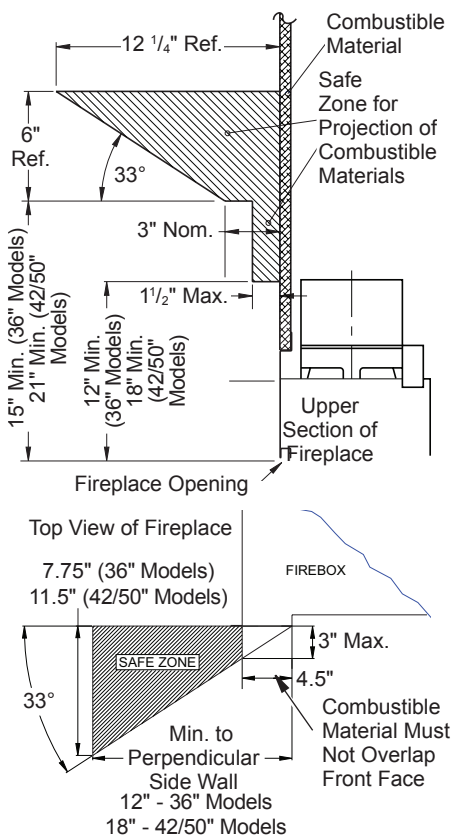

**Figure 6 - Hearth Extension**
Thermal conductivity "K" of materials can be obtained from manufacturer or supplier of noncombustible material. If hearth extension is to be covered, use noncombustible material such as tile, slate, brick, concrete, metal, glass, marble, stone, etc. Provide a means to prevent hearth extension from shifting and seal gap between fireplace frame and hearth extension with a noncombustible material (see Figure 6).
**WARNING: Hearth extension is to be installed only as shown in Figure 6.**